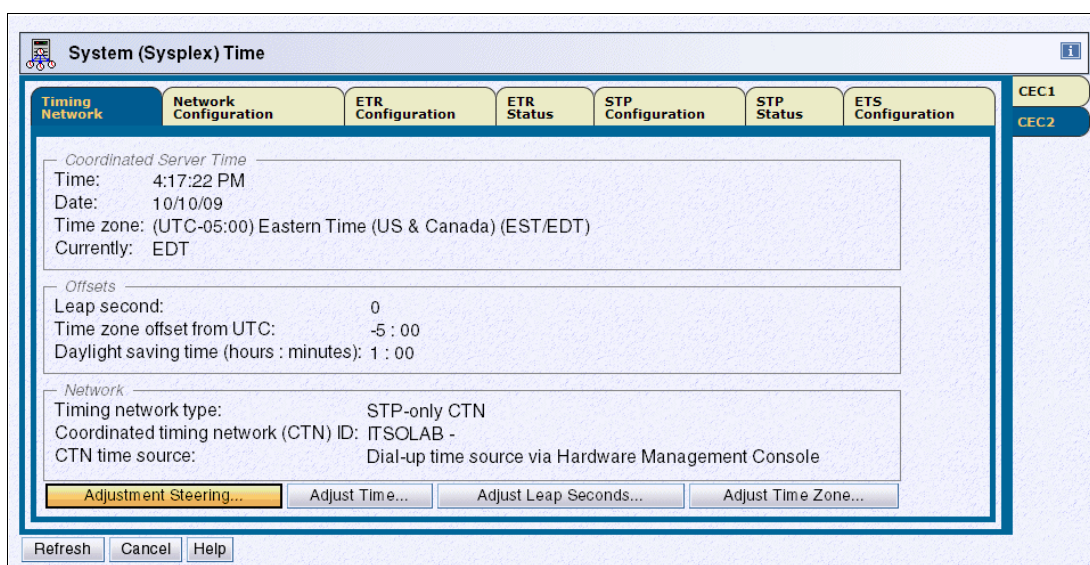

Figure 6-73 Timing Network Tab - CTN time source now HMC dial-up
3. Click **OK** to return to the Network Timing tab (Figure 6-73). The CTN Time source now indicates “Dial up time source via the Hardware Management Console”. The Adjustment Steering button is enabled.